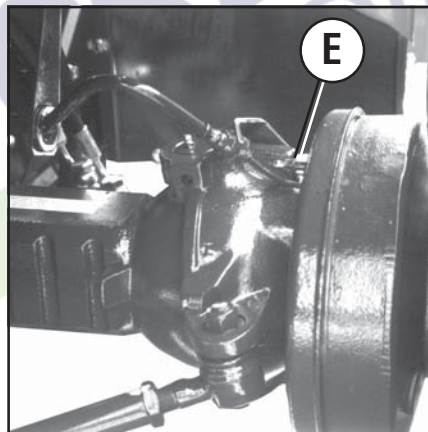

Fig. 63
- loosen the front deaerators (E Fig. 63) and